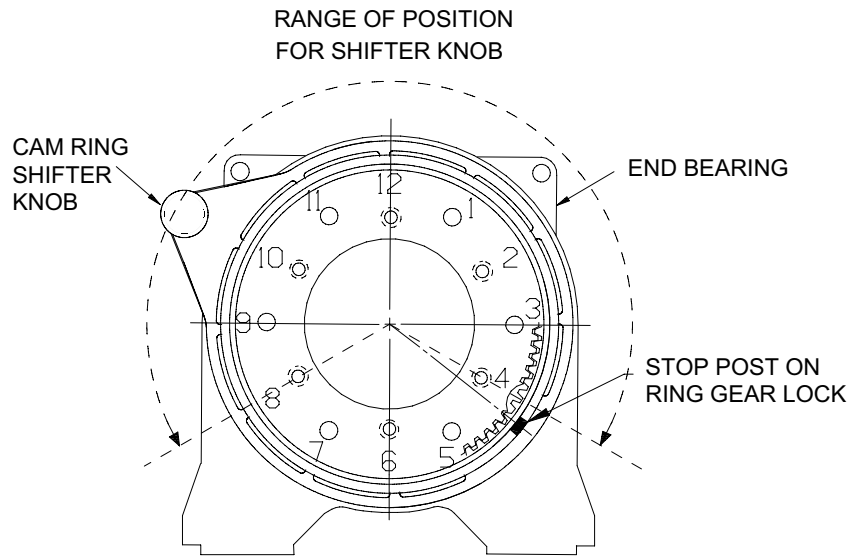

FIGURE 10
5. Determine position shifter knob needs to be for your application. **Note:** Shifter knob cannot be positioned too low or it will interfere with the feet on the Gear End Bearing (see Range of Position in Figure 10).